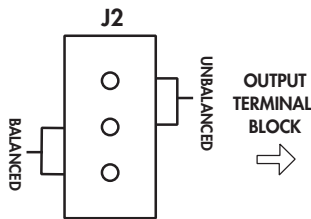

Figure 2.1: Balanced/Unbalanced Jumper
- d. Observing the positions shown in Figure 2.1, remove the jumper and re-install it in the unbalanced position.